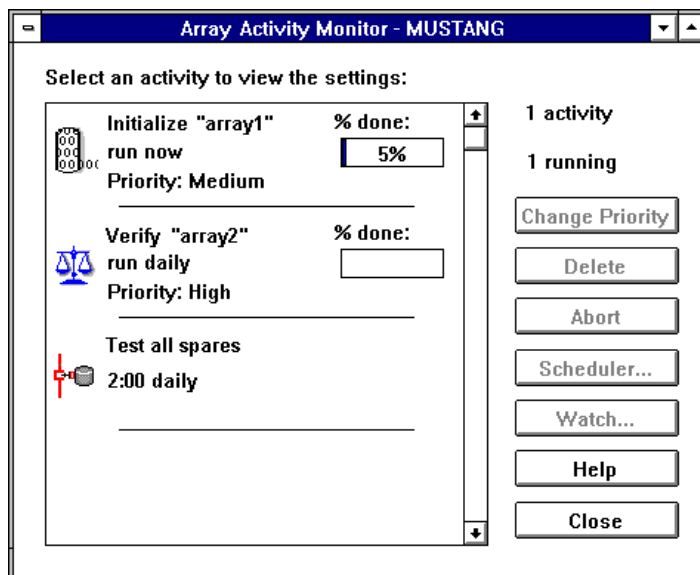

Figure 11-2. Array Activity Monitor Window
- 1 Select **Activities** from the View menu. The Array Activity Monitor window appears, as shown in Figure 11-2.